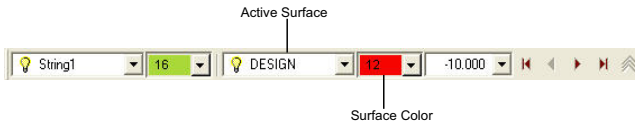

Figure 18-55. Properties Toolbar
- Choose the design surface on the **Properties** toolbar, and then select the required cross section in the CrossSection pane (Figure 18-55).